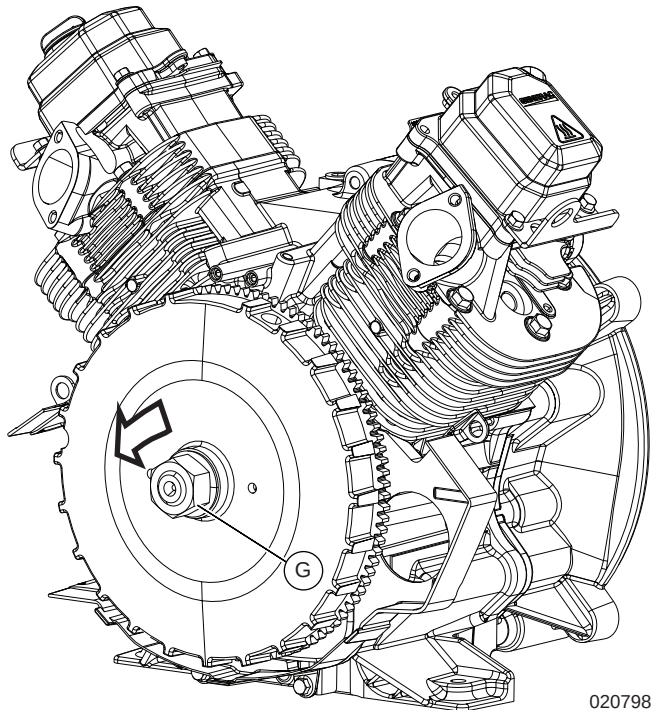

Figure 6-30. Loosen Flywheel Nut
3. See Figure 6-30. Loosen flywheel nut (G) until it is flush with end of crankshaft threads.